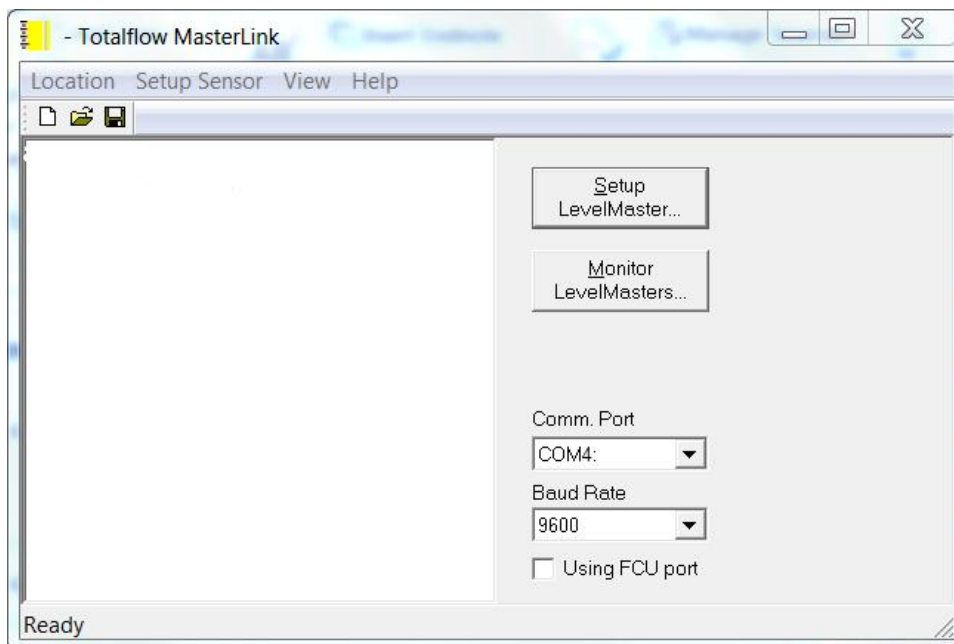

Figure 39: MasterLink main screen
1. Start the MasterLink version 2.0 software. The main screen displays (Figure 39). If no default location file is opened, the screen displays no location or existing LevelMasters.